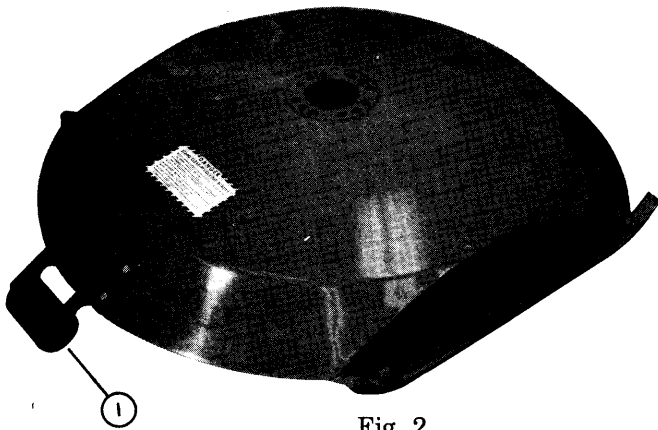

Fig. 2
2. Bolt the assembled gauge roller to the mower deck with the four 5/16 x 3/4 bolts and 5/16 nuts. See fig. 2.